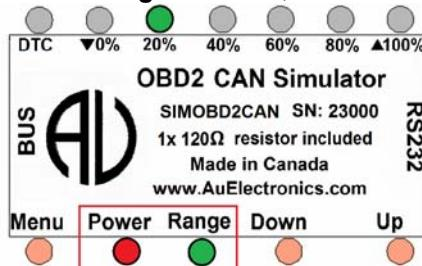

Figure 3-2
- When power on, both **Power LED** and **Range LED** is lit, as shown in Figure 3-2.